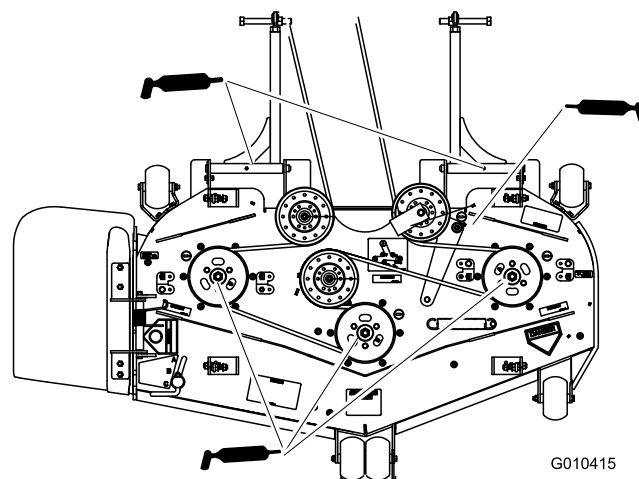

Figure 36
3. Grease the idler pulley pivot (Figure 36).
4. Grease the fittings on the 3 spindle bearings (Figure 36).